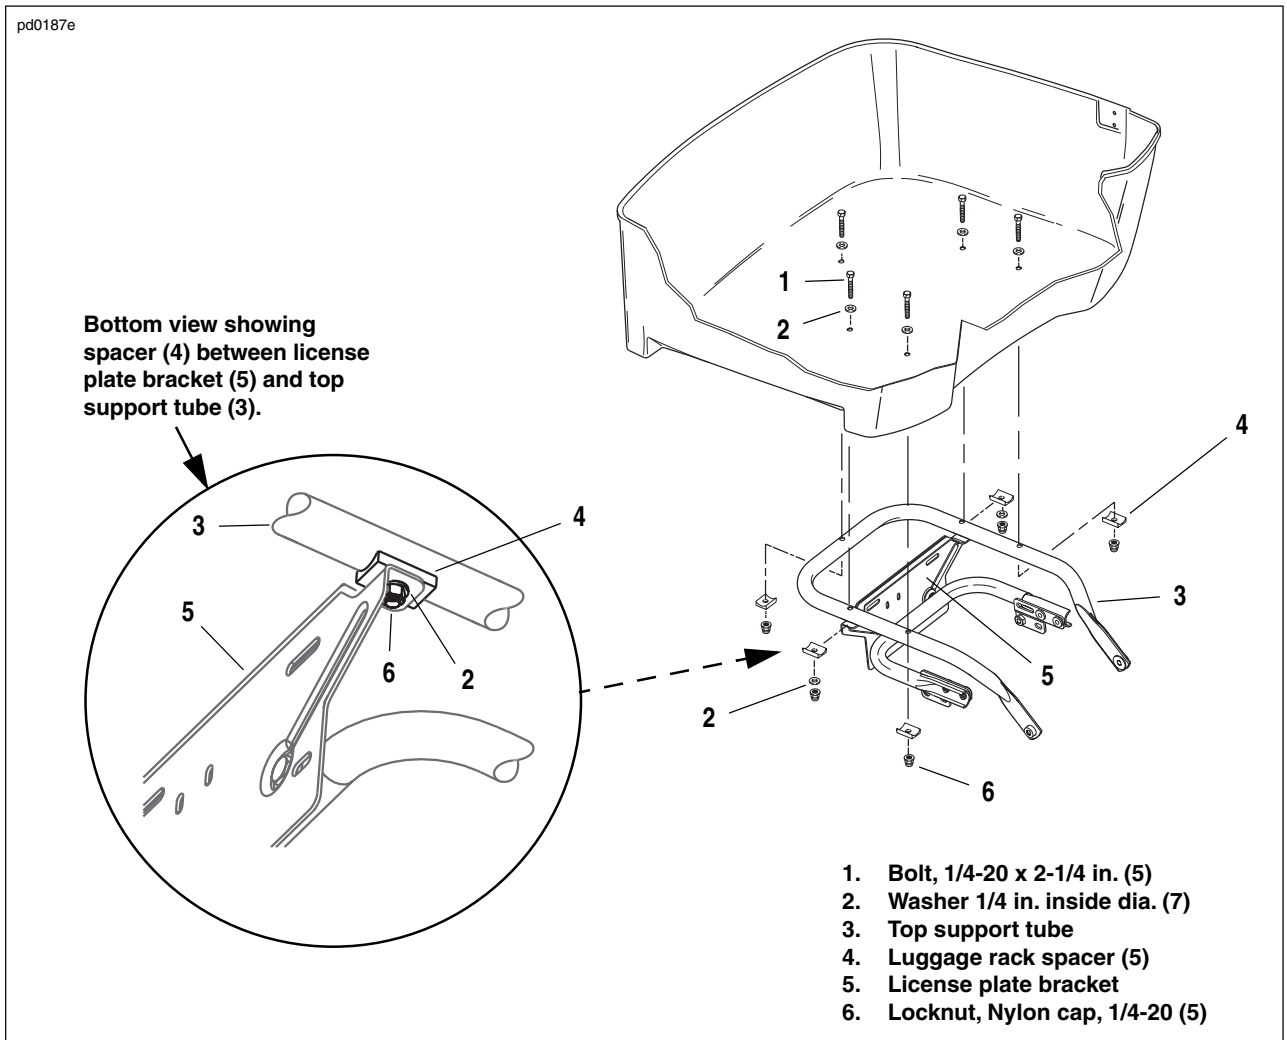

Figure 2-4. Tour-Pak Mounting
7. See Figure 2-4. Move Tour-Pak to rear so five mounting holes align with five holes in top support tube.
8. From inside Tour-Pak, install right rear bolt (1) and washer (2) through bottom of Tour-Pak, hole in top support tube (3), luggage rack spacer (4), and hole in license plate bracket (5).
9. Install washer (2) and locknut (6) on right rear bolt and tighten "finger-tight". (This fastener will keep Tour-Pak in position while remaining four bolts are installed.)
10. Install antenna ground lead ring terminal under washer of rear mounting bolt and install rear bolt as shown in Figure 2-4.
11. Install remaining bolts, washers, spacers and nuts as shown in Figure 2-4.